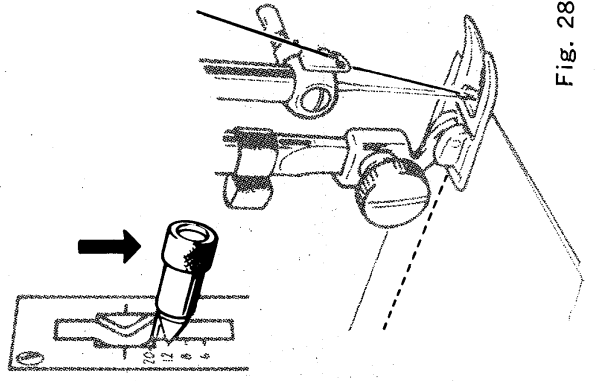

Fig. 28
7. Lower stitch length regulator for forward stitching and stitch to end of seam. Fig. 28.